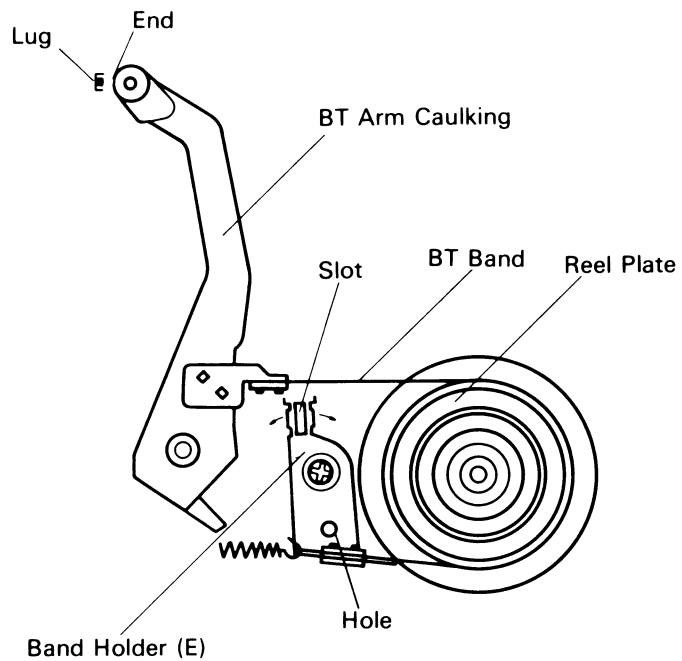

Fig. 2
2. In the PLAY mode (without a tape) (Fig. 2)